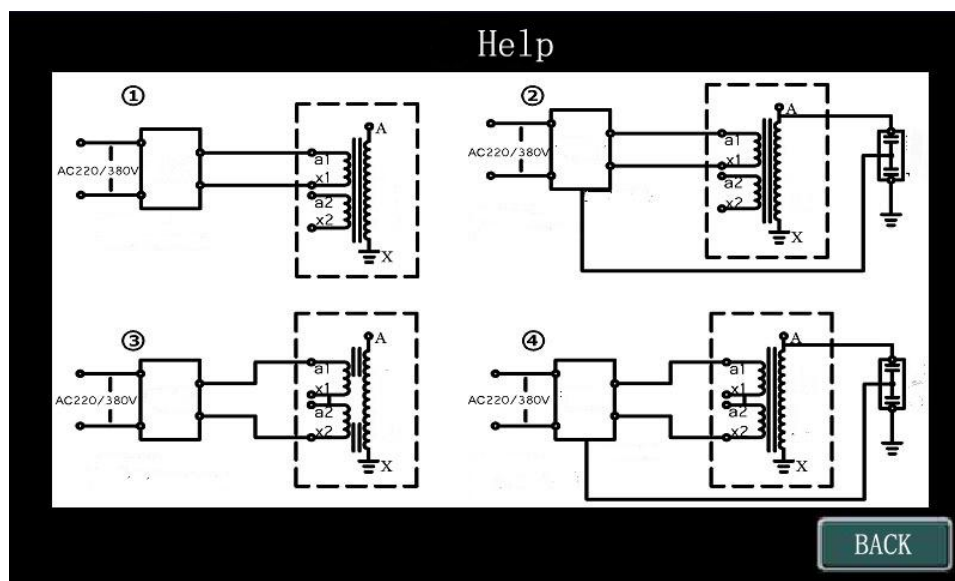

Figure 22
2.2.10 Help : This interface mainly displays the connection mode in the multi octave voltage withstand test schematic diagram, display interface as shown in Figure 22.